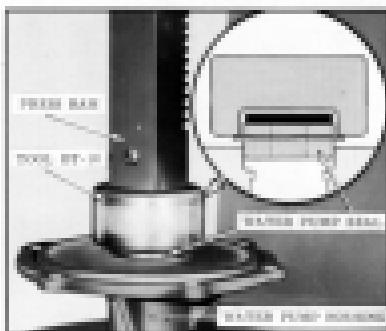

Fig. 272. Installing Seal in Pump Housing
2. Assemble end in housing using tool BT-16 as shown in Figure 272.